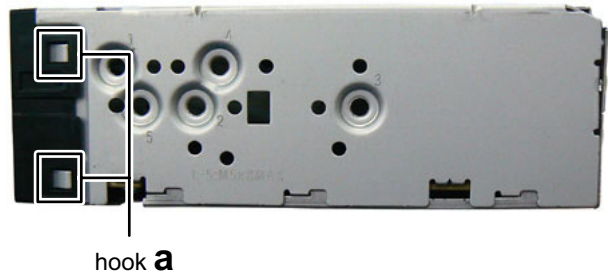

Fig.1
3.1.1 Removing the FRONT CHASSIS assembly (See Fig.1)